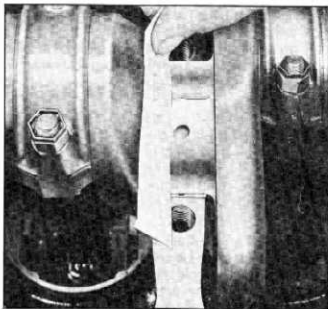

Fig. 53—Measuring Plastigage
- Without removing the Plastigage, check its compressed width (at the widest point) with the graduations on the Plastigage envelope (fig. 53).